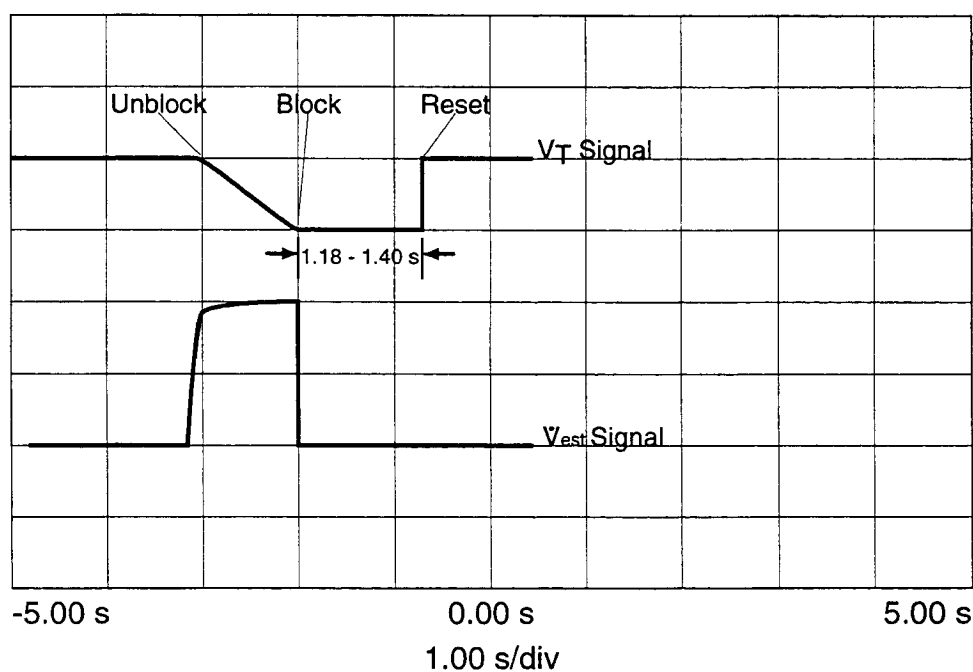

Figure 7-8. Spontaneous Mode.
- Step 4 See Figure 7-8 for oscilloscope traces. Unblock the orifice and watch the  $V_T$  signal ramp for approximately 1.0 seconds, then block the orifice.